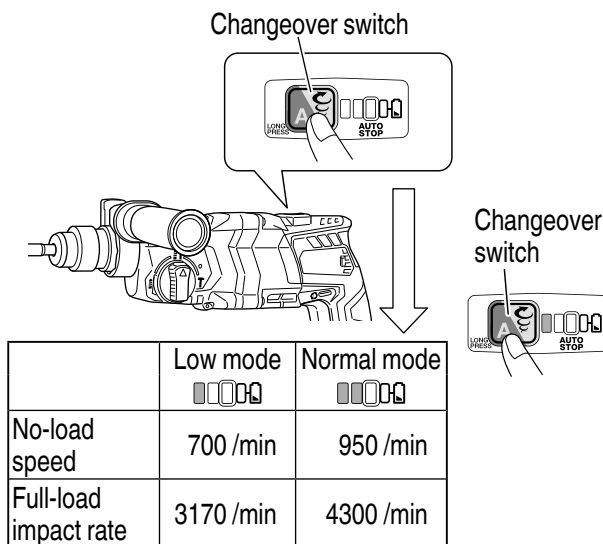

Fig. 30
- Rotation speed (Low mode/Normal mode) (**Fig. 30**)